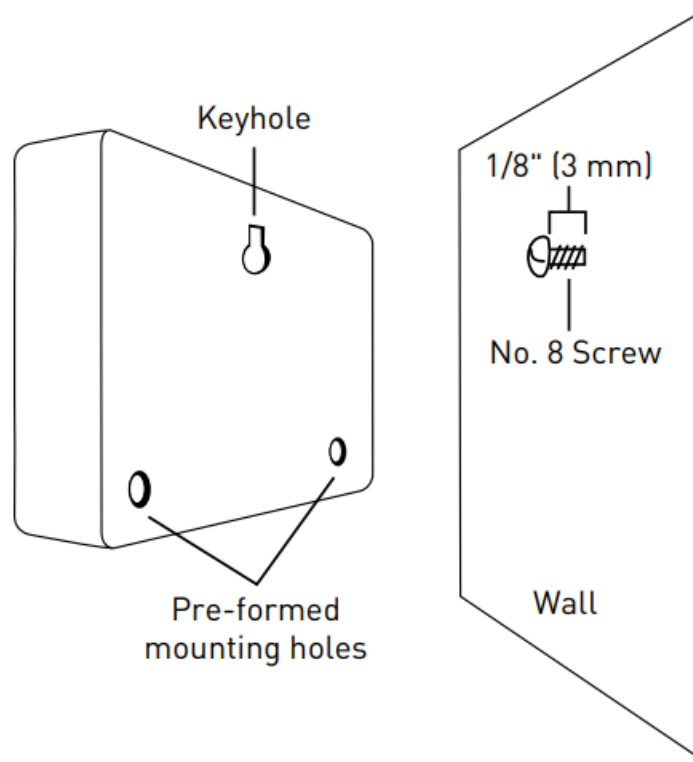

Figure 2: Hang timer on screw using keyhole
- Slip the timer over protruding screw (using keyhole slot in back of timer). See figure 2
- Drive a No. 8 screw through one of the two pre-formed holes located in lower corners of the cabinet. See figure 2